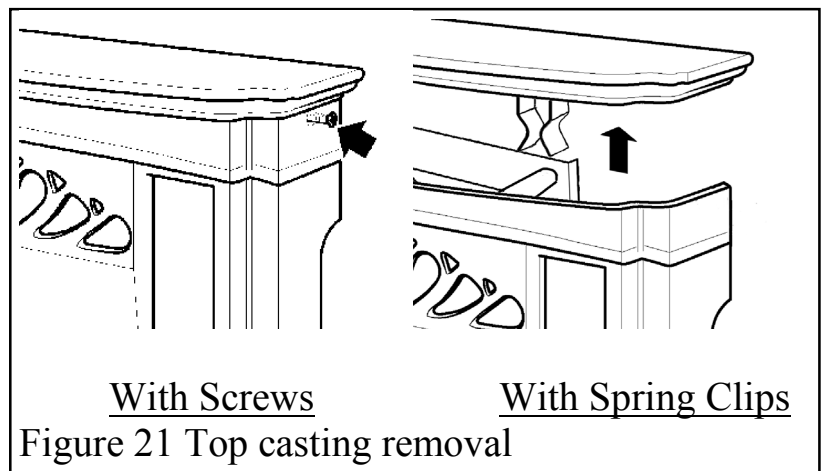

Figure 21 Top casting removal
- The top casting will have to be removed to insert the tile set. Some appliances have the top casting secured to the sides by screws. Other appliances have the top secured by spring clips. If the top is screwed to the sides, unscrew the two screws at the top of the side castings until they are loose enough to allow the top to be lifted off. There is no screw thread in the top casting, only in the side castings (See figure 21). If no screws are visible, the top can be removed by pulling it firmly upwards to release the spring clips (See figure 21).